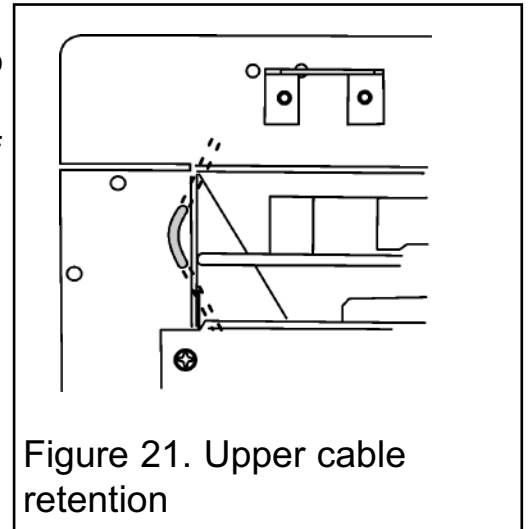

Figure 21. Upper cable retention
**5.** The convection box has two holes at each side of the convected air opening. Insert one end of each cable (one cable each side) from the back through the lower of the two holes and return the end through the upper of the holes (See figure 21). Give the cables a pull so that they grip against the convection box flanges.